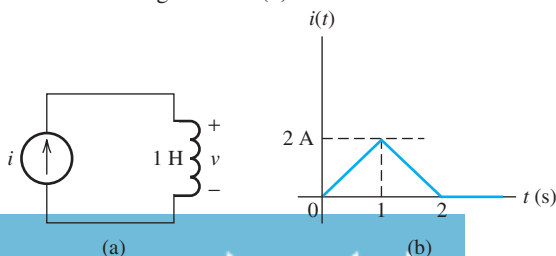

FIGURE P4.40 (a) Inductor circuit; (b) waveform of $i(t)$.
4.40 (H) For the circuit shown in Figure P4.40(a), the current $i(t)$ is shown in Figure P4.40(b).